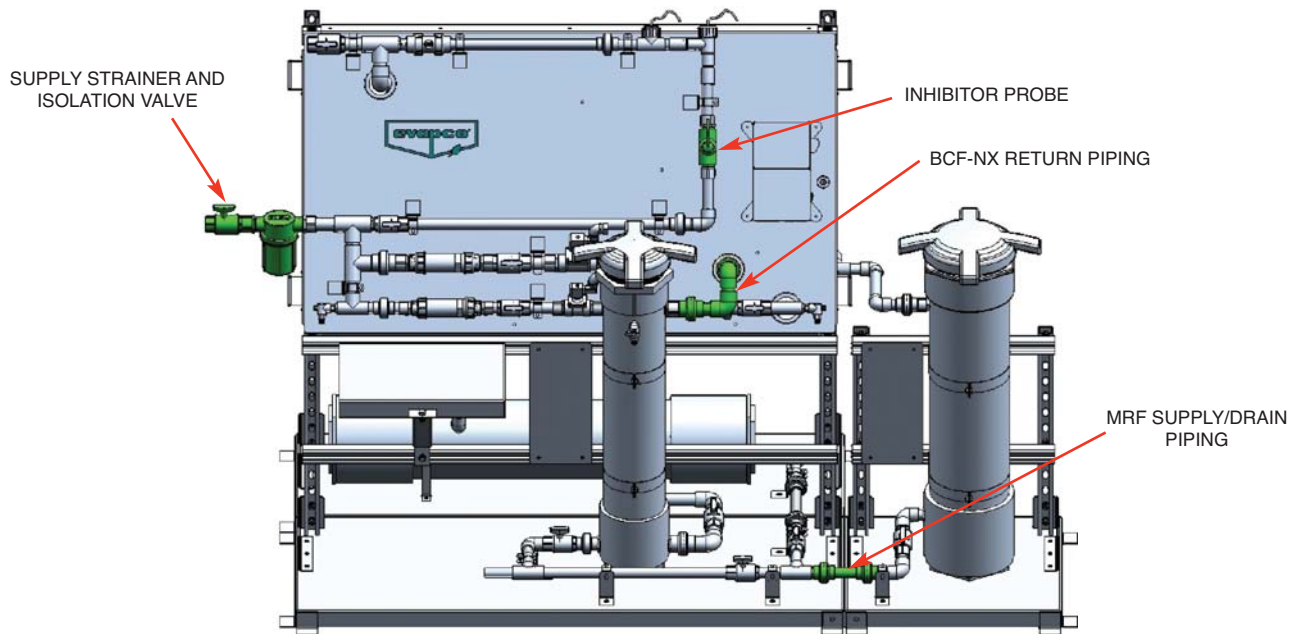

Figure 11 – Front View of Piping
- 2.13 Install inhibitor probe into probe manifold, first ensuring O-ring is in place. See Figure 11. Refer to wiring diagram provided in submittal or conductivity controller IO&M for details.